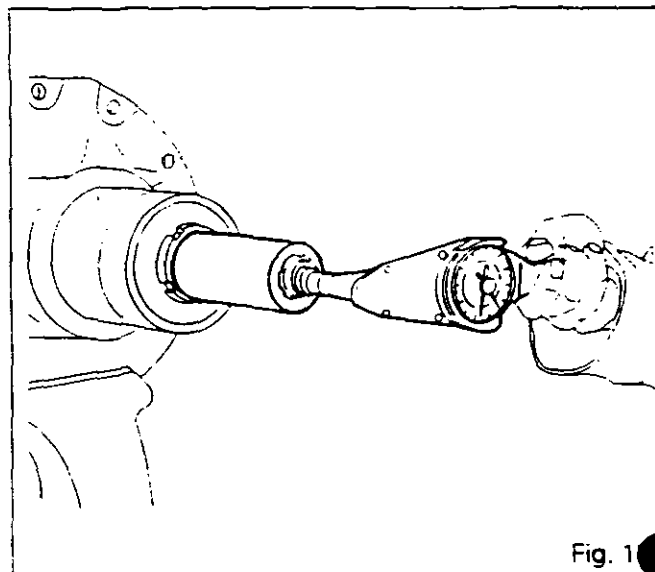

Fig. 18
55. Rotate the bevel drive pinion through a few turns using a torque wrench and the special sleeve (Fig. 18). Check that the above torque is correct.
**Note** : *The torque of 250 - 295 Nm should be applied to every refitting of nut (1).*
56. After setting, maintain nut (1) and untighten the bevel drive pinion.
57. Fit O'ring (40). Apply Loctite 270 on nut (1). Rotate the bevel drive pinion until torque of 250 - 295 Nm is obtained, lock the nut by bending its tab in two opposite slots. Check nut (1) is free of burrs. Oil the seal ring (4) and fit it into the casing using a locally made drift (see section M).